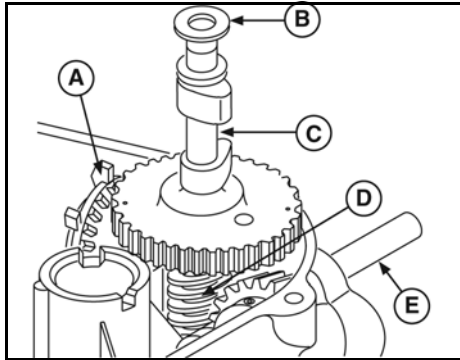

Figure 23
Some models of the vertical shaft 110000 and 120000 engines were equipped with an auxiliary PTO shaft. The auxiliary PTO shaft (E, Figure 23) extends through the side of the sump, perpendicular to the crankshaft. Rotation can be either clockwise or counterclockwise, as viewed from the end of the shaft. The oil slinger (A), camshaft (C), and worm gear (D) are pre-assembled and must be serviced as a set.
**NOTE:** The clockwise system requires a thrust washer (B) installed at the upper camshaft journal. The counterclockwise system requires the thrust washer be installed at the lower journal, under the worm gear.